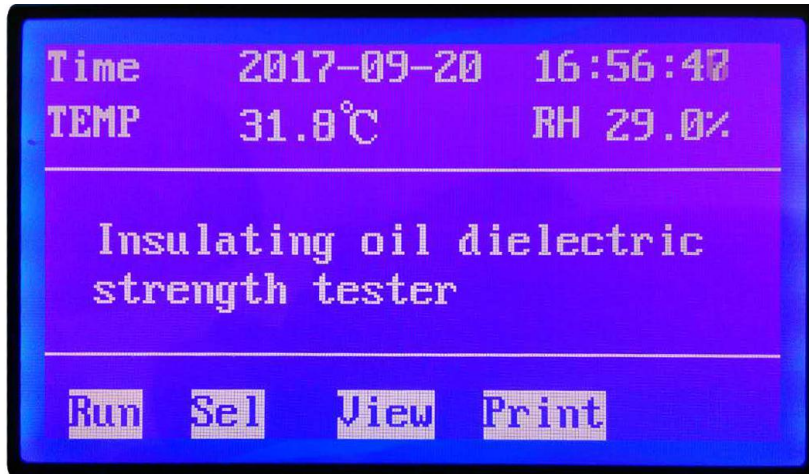

Figure 1. On the page
1. Plug the power cord, turn on the power switch, and LCD screen displays the boot page (figure 1)
2. Under the page of figure 1, press the set key to enter the next level page (figure 2).
7. Every time the breakdown voltage and the number of cycle of automatic storage, and after the measurement shows that the test finished, then press the ok button to return to the start page (figure 1), press to print or display into the oil cup each average value and the breakdown voltage of storage record (figure 7).
Press print to print the test results, according to the confirm button to return to boot page (figure 1).